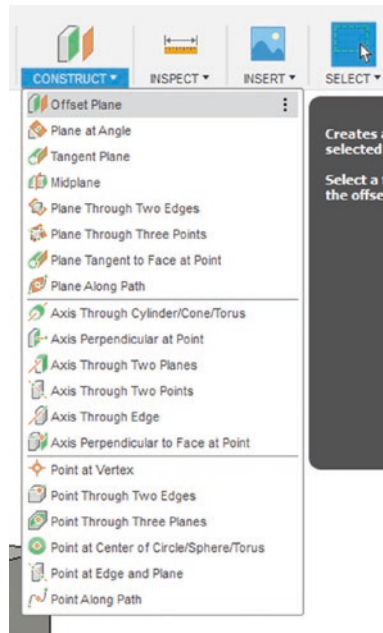

Figure 8-9. Select the “Offset Plane”
- 2. Select Construct ► Offset Plane. See Figure 8-9.